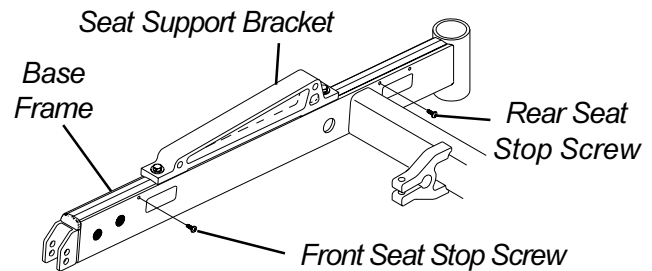

FIGURE 6 - REMOVING/INSTALLING SEAT STOP SCREWS
**REMOVING/INSTALLING SEAT STOP SCREWS (FIGURE 6)**